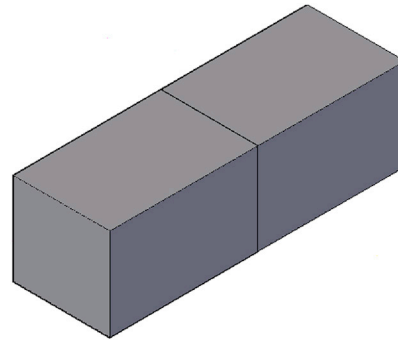

FIGURE 25.13 3Dalign completed.
Step 5. Select the points carefully; Block 2 may be in the way, so you need to trust your OSNAPs (or just stay in wireframe mode to see the points). The final result is shown in Fig. 25.13.